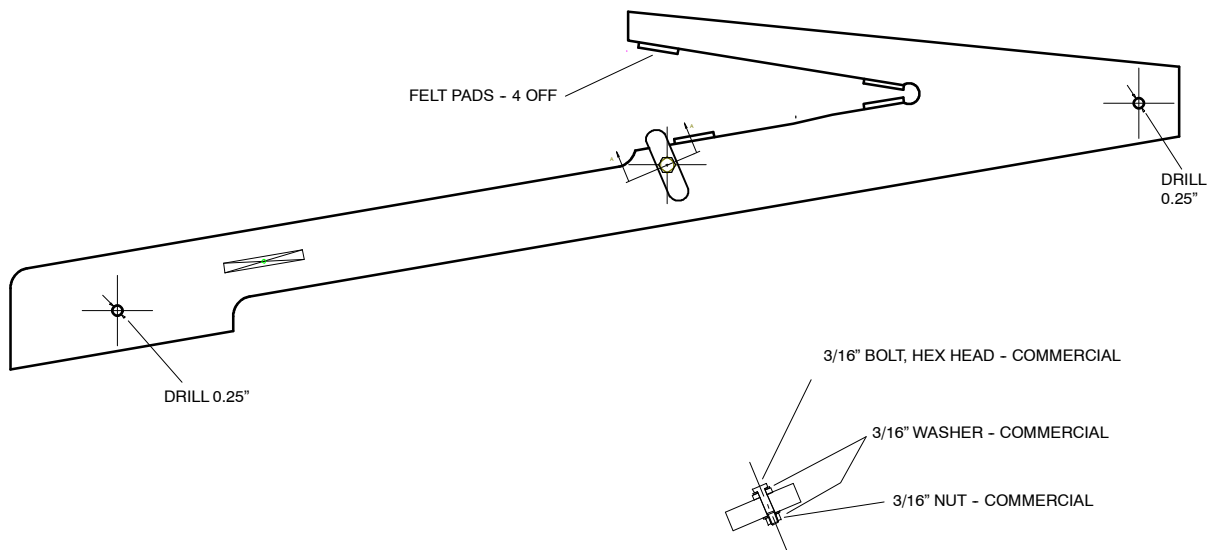

Figure 2. Load Applicator Tool (1/N-88-273)
- (1) Previous techniques of measurement, by application of 'light finger pressure' did not represent the airloads expected on the Trim Tab in flight. The method provided in this Service Bulletin NMD-27-54 is intended to be more representative and consistent.
- (2) Figure 2 provides a drawing (N-88-273) of the tool required to perform the loading of the Trim Tab for backlash measurement. It is designed for local manufacture. A full-sized template will be supplied.